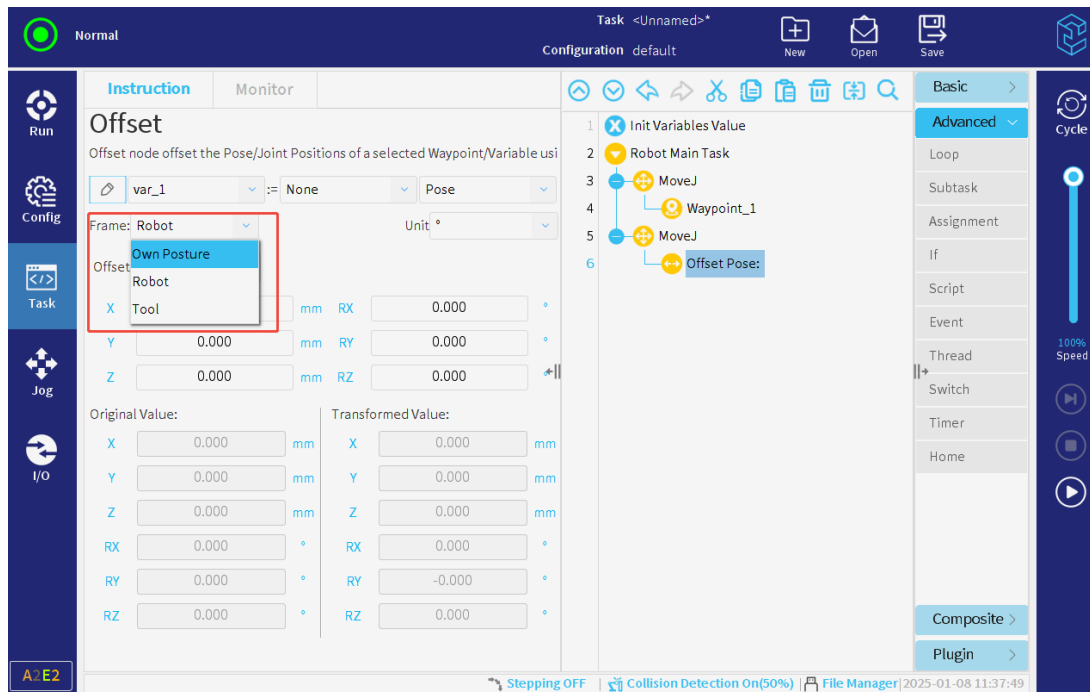

Figure 3-114 : To Specify the frame for Pose-based Offset
- For the pose-based offset, its frame can be the robot, tool or own gesture, as presented in **Figure 3-114**.